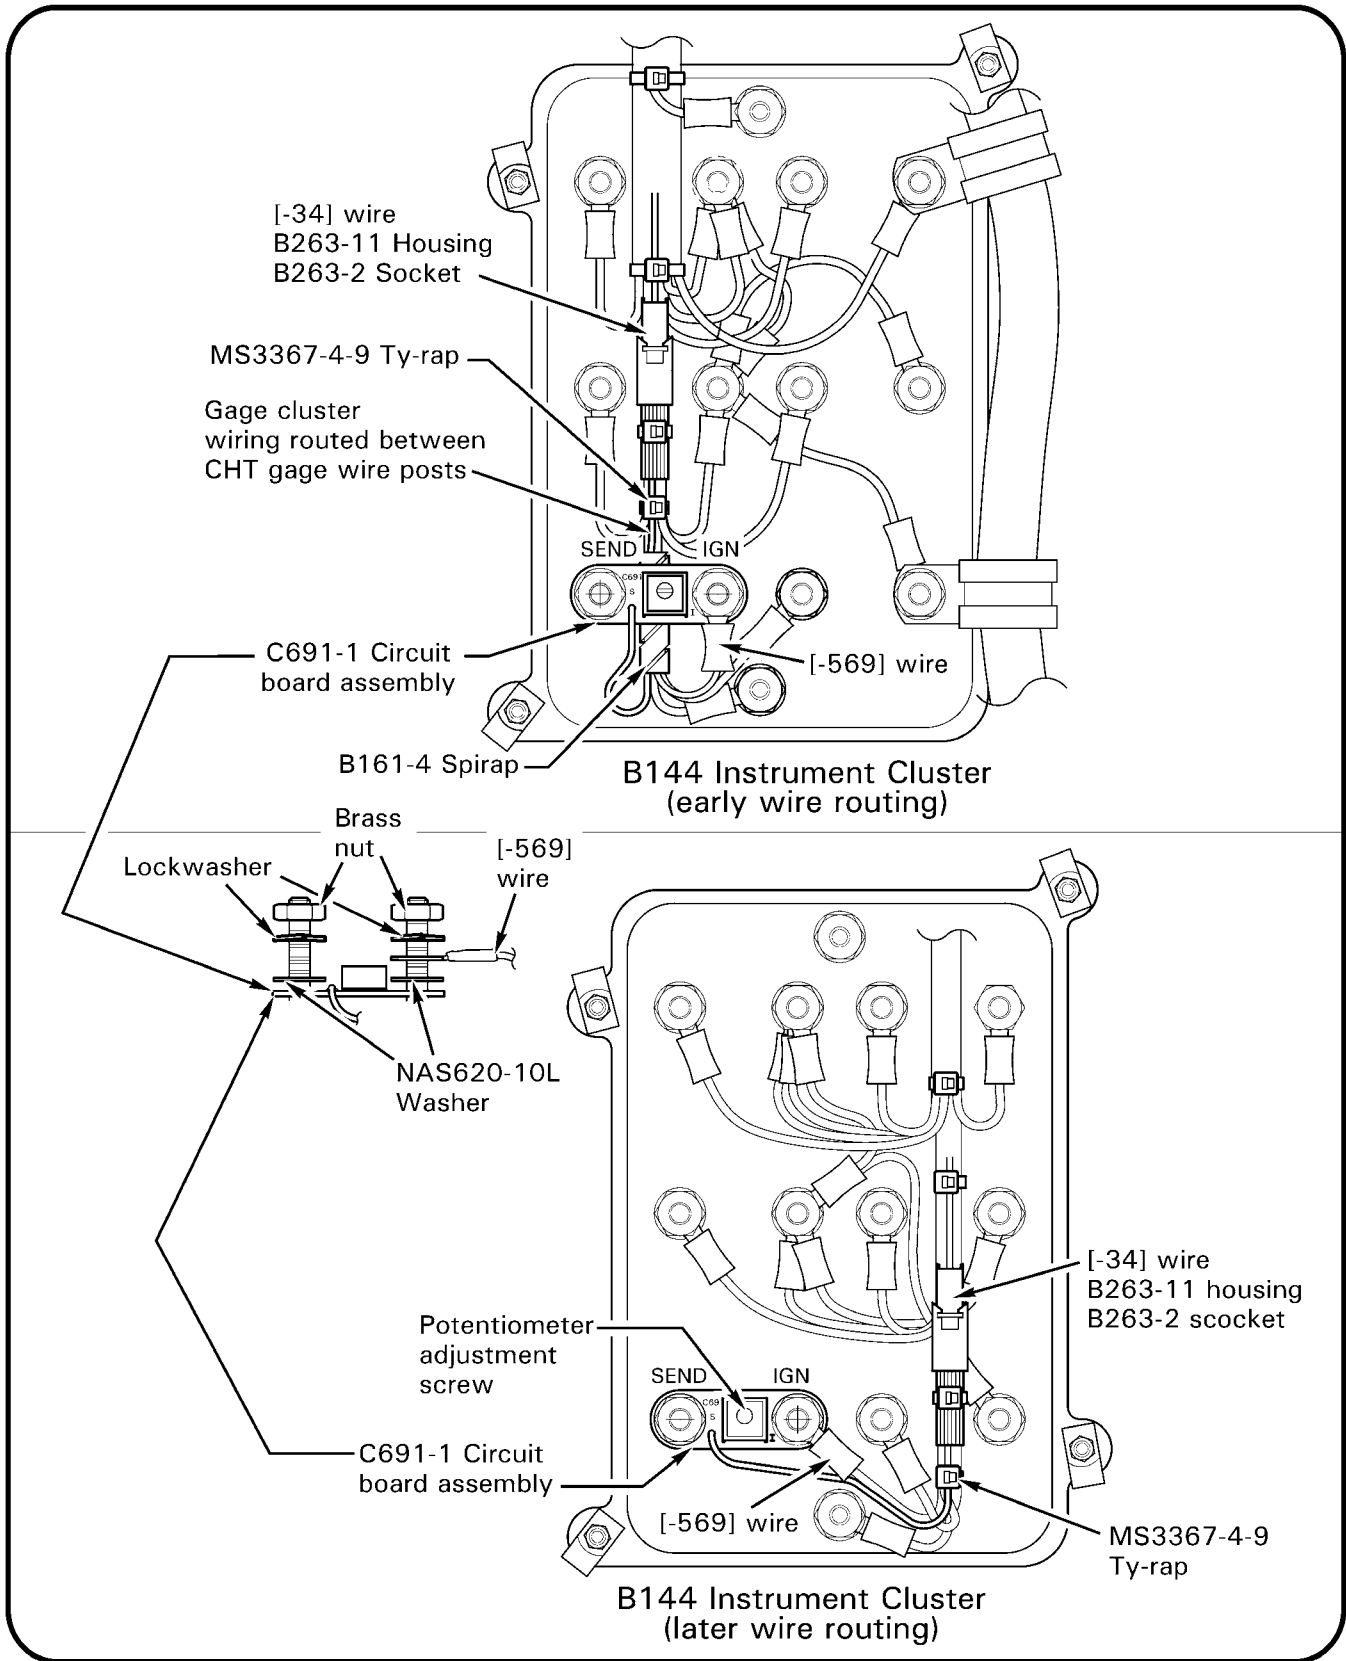
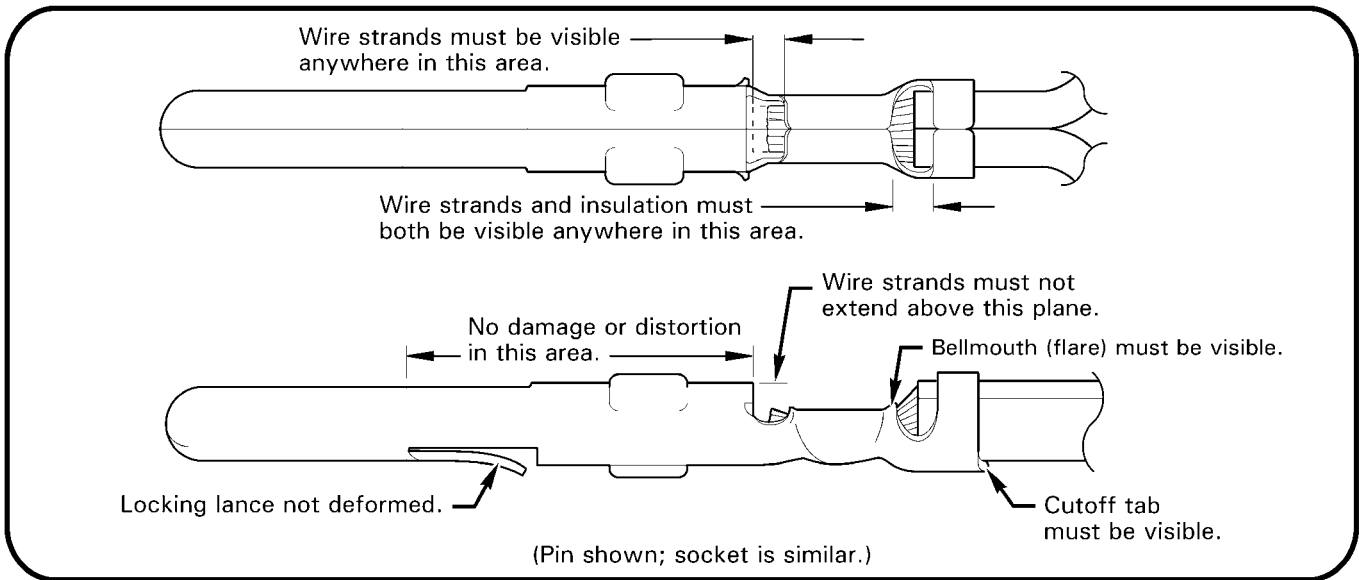

FIGURE 1
FIGURE 2
5. Refer to Figure 1. If instrument cluster wiring is routed between CHT gage “SEND” and “IGN” posts, install a one-inch length of B161-4 spirap on wiring between posts as shown.
- wire attached to circuit board routed per applicable view in Figure 1.
7. Trim original -34 wire to result in final installation per Figure 1, strip insulation, and crimp B263-2 socket on wire. Inspect crimp per Figure 2. Install B263-11 housing and verify socket security. Connect original -34 wire to wire from C691-1 circuit board (a “click” sound is heard when socket/housing are fully mated.) Route and secure wiring with MS3367-4-9 ty-raps as required; cinch ty-rap until snug without over tightening, and trim tip flush with head.